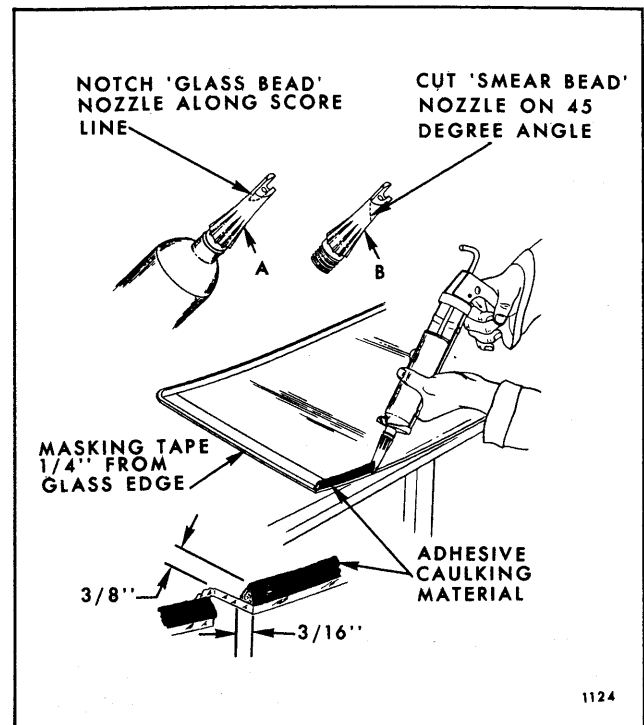

Fig. 8-24—Adhesive Caulking Material Application - Extended Method
8. Apply one inch masking tape completely around edge of glass inner surface 1/4" inboard from outer edge (see Fig. 8-24).
12. With caulking gun and nozzle positioned as illustrated in Figure 8-24, carefully apply a smooth continuous bead of caulking material 3/8" high by 3/16" wide at base completely around inside edge of glass.